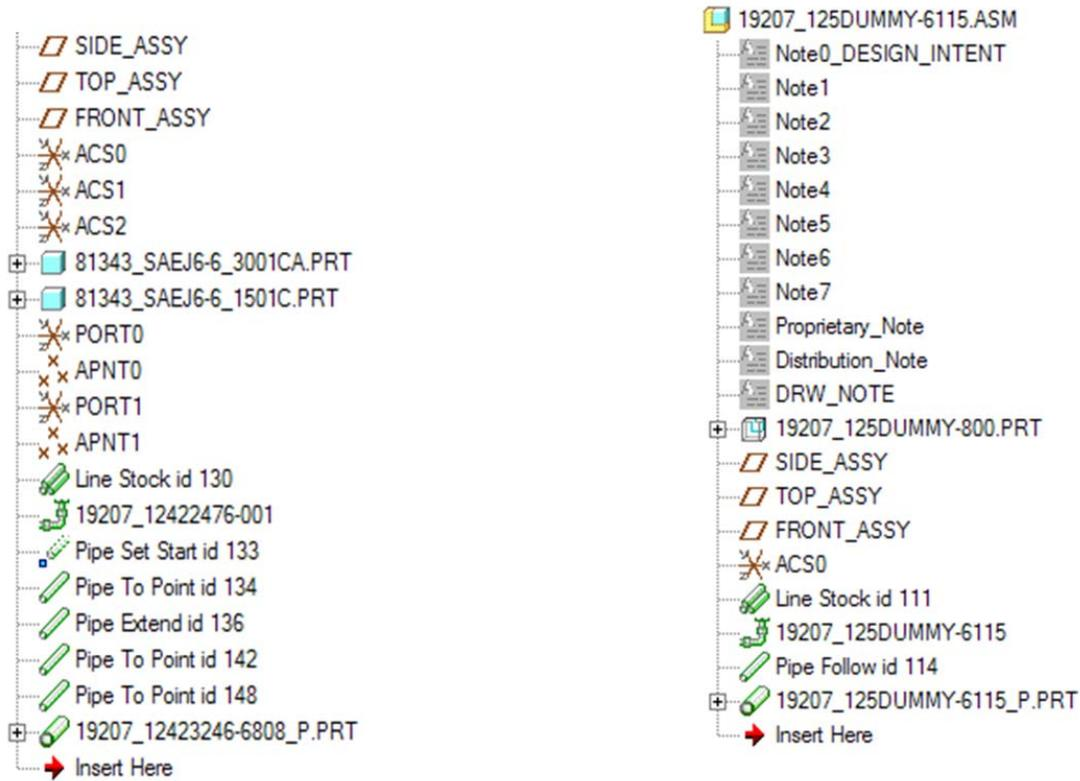

FIGURE 20: EXAMPLE OF CREATING PIPE ROUTE IN SEGMENTS VS. FOLLOWING CURVE
- The user will determine the actual routing of the pipeline. There are many ways to route each pipeline and each user will have a preferred method. Two methods are shown in **Figure 20**.